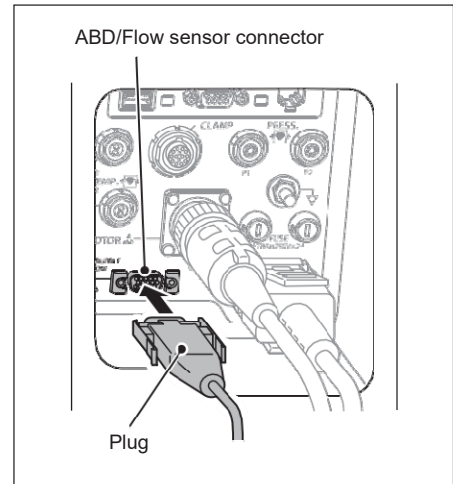

Figure 1-13
1. Insert the plug of the ABD/Flow Sensor into the ABD/Flow sensor connector on the rear panel until you hear a click. (Figure 1-13)